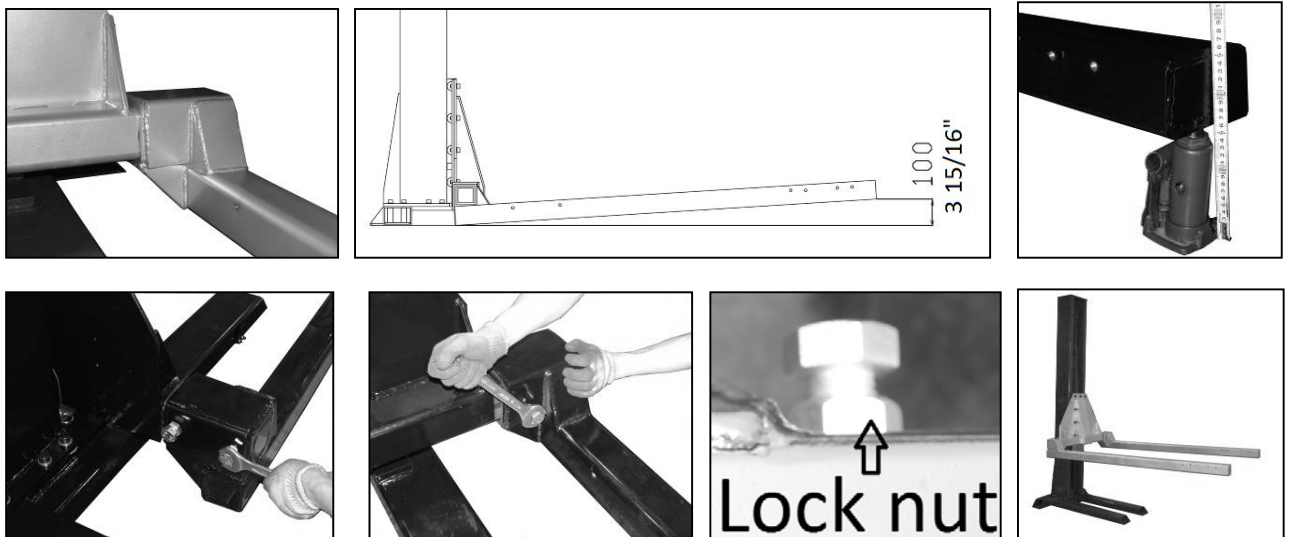

Abbildung: 9-A, B, C, D, E, F, G Fitting the bracket
- 11) Then position the two stabilisers on the lifting carriage (Fig. 9-A). To ensure that the platforms become horizontal when cars are parked on them, you must carry out the following presetting of the arms: First lift the rear ends of the arms to approx. 100 mm using a trolley jack (Fig. 9-B, C). Then tighten the two screws at the rear and the front screw (Fig. 9-D & E). Then tighten the lock nut in the correct position.